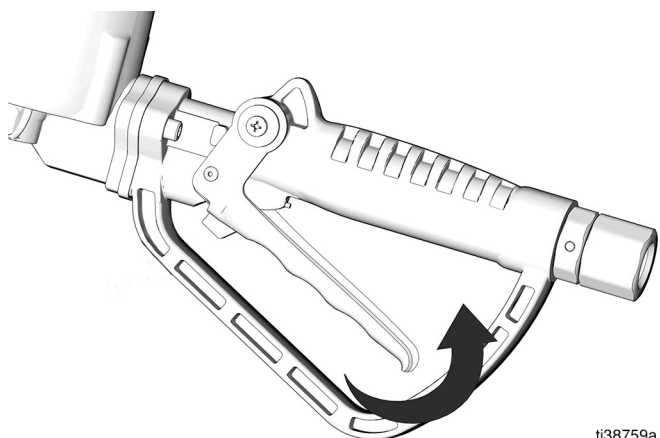

FIG. 4
5. Dispense by squeezing the trigger toward the valve body (FIG. 4).